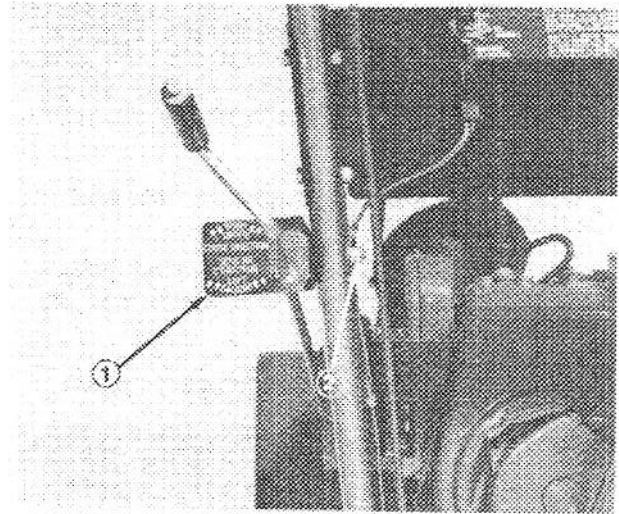
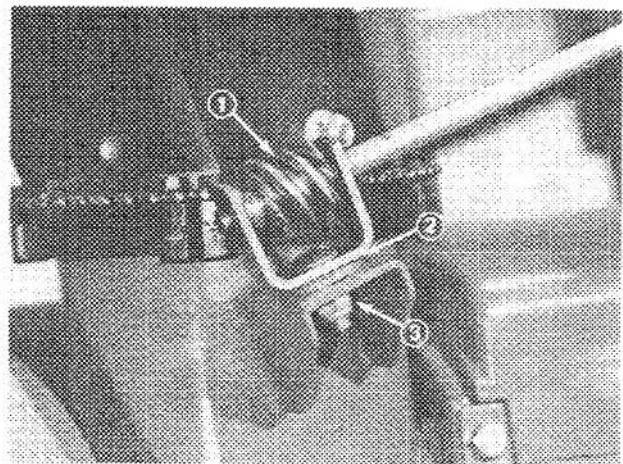

Figure 12
Figure 13
1. Assemble chute control bracket and rod to left side of handle with capscrew and locknut. Leave locknut loose until assembly is completely mounted (Fig. 12).
2. Apply No. 2 general purpose grease to worm gear and mount worm gear and bracket to mounting flange (Fig. 13). Install flat spacer between bracket and flange and pyramidal washer and locknut under flange (Fig. 13).
3. Push worm firmly against teeth in chute retaining ring and tighten locknut (Fig. 13). Then, tighten locknut to secure chute control bracket against left handle (Fig. 12).